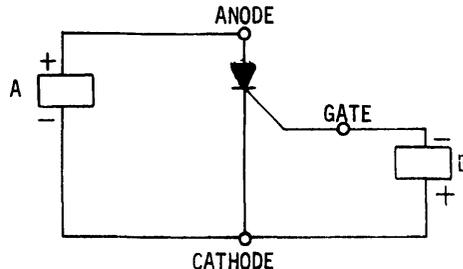

FIG. 8A (ITE-4442)
5.53 Set meter A on the RX1000 resistance scale, and meter B on the RX1 resistance scale. The polarity stampings on the meter case are for the voltmeter. The ohmmeter polarity may be different. The arrangement of figure 8A or 8B takes this into account. Meter B is used to provide an approximate one volt positive gate. Meter A should indicate a low resistance.